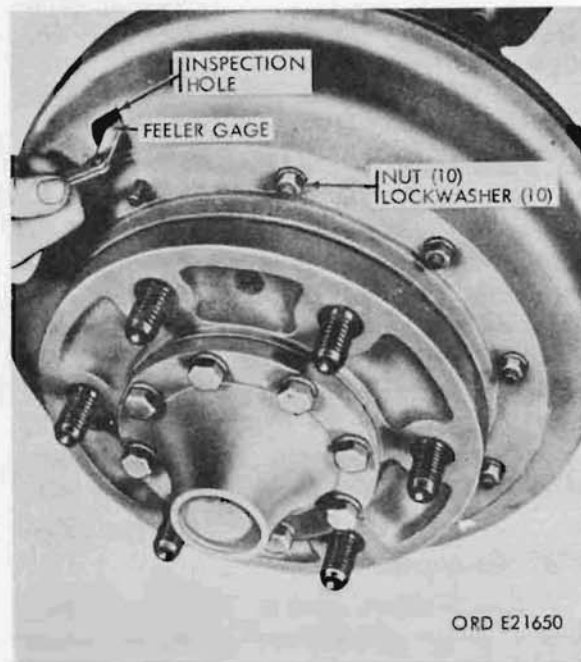
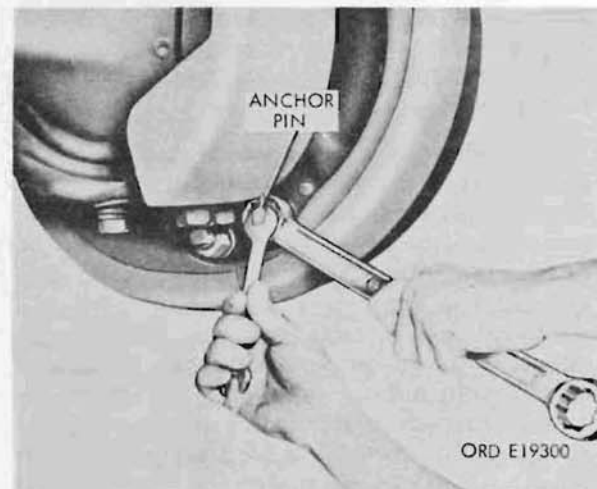
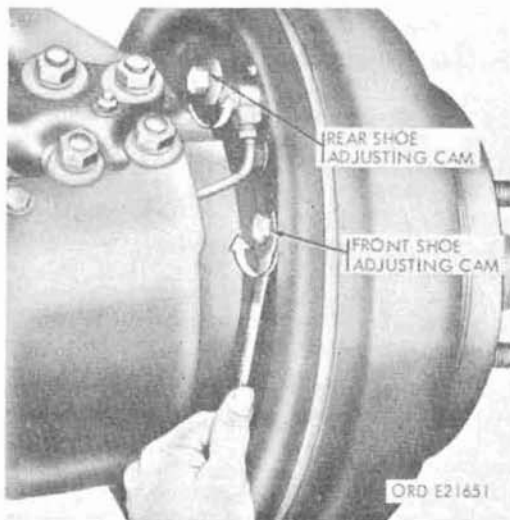
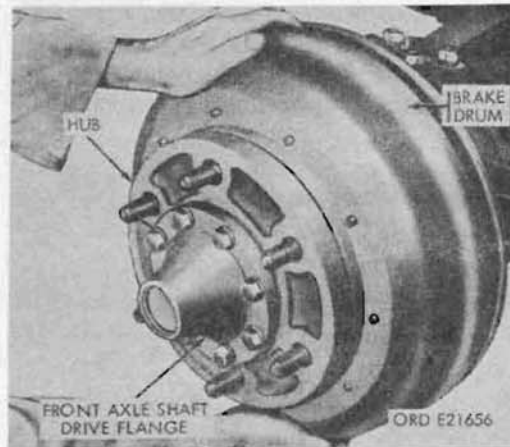

Figure 204. Checking brake line clearance.
Figure 205. Anchor pin adjustment.
Figure 206. Adjusting brake lining clearance
Figure 211. Removing service brakedrum
(2) Service brake adjustment to compensate for lining wear is made by turning the adjusting cam only (fig. 206), and is termed "minor adjustment." Following rebuild, or when new linings are installed, each brake-shoe must be adjusted to center the brakeshoe arc in relation to drum. This involves turning both the anchor pins and the cams and is termed "major adjustment."
(3) Always check the wheel bearing adjustment (para 206) before adjusting the brakes. Satisfactory brake adjustment cannot be obtained unless the wheel bearings are in proper adjustment.
Brake lining clearance (fig. 204) can be checked without removing brakedrum (c(2) below), but the wheels must be removed. Do not adjust the brakes when drums are hot.
b. Minor Adjustment (fig. 206). Adjust the brakes by turning the front shoe adjusting cam, to bring lining into contact with the drum, until the brake drags slightly when the wheel is turned by hand. Back off the adjusting cam just enough to allow the wheel to rotate freely. Repeat this procedure at the rear shoe adjusting cam, turning the cam counterclockwise. Make both adjustments at each wheel as uniform as possible. Repeat the operation on all other wheels.
(1) Remove wheel (para 203).
(2) Remove inspection cover from outside of brakedrum. Rotate the drum until opening is $1\frac{1}{2}$ inches from bottom end of the forward brakeshoe. Insert 0.010-inch feeler gage between the drum and bottom end of the shoe (fig. 204). Loosen the locknut on the anchor pin. Hold the locknut with one wrench and turn the anchor pin clockwise (fig. 205) with the second wrench until 0.010-inch clearance is obtained. Tighten the locknut.
(3) Rotate the drum until the opening is $1\frac{1}{2}$ inches from the top end of the forward brakeshoe (fig. 204). Insert 0.020-inch feeler gage and turn the adjusting cam (fig. 206) until 0.020-inch clearance is obtained. Check the lower clearance again ((2) above).
(4) Repeat procedures (2) and (3) for rear brake shoes.
(5) Repeat (2), (3) above on the other wheels.
a. Removal. Remove the wheel (par. 203) and tire. Remove 10 nuts and lockwashers holding the drum to the hub assembly (fig. 204). Pry the drum loose and pull the drum (fig. 211) off the studs.